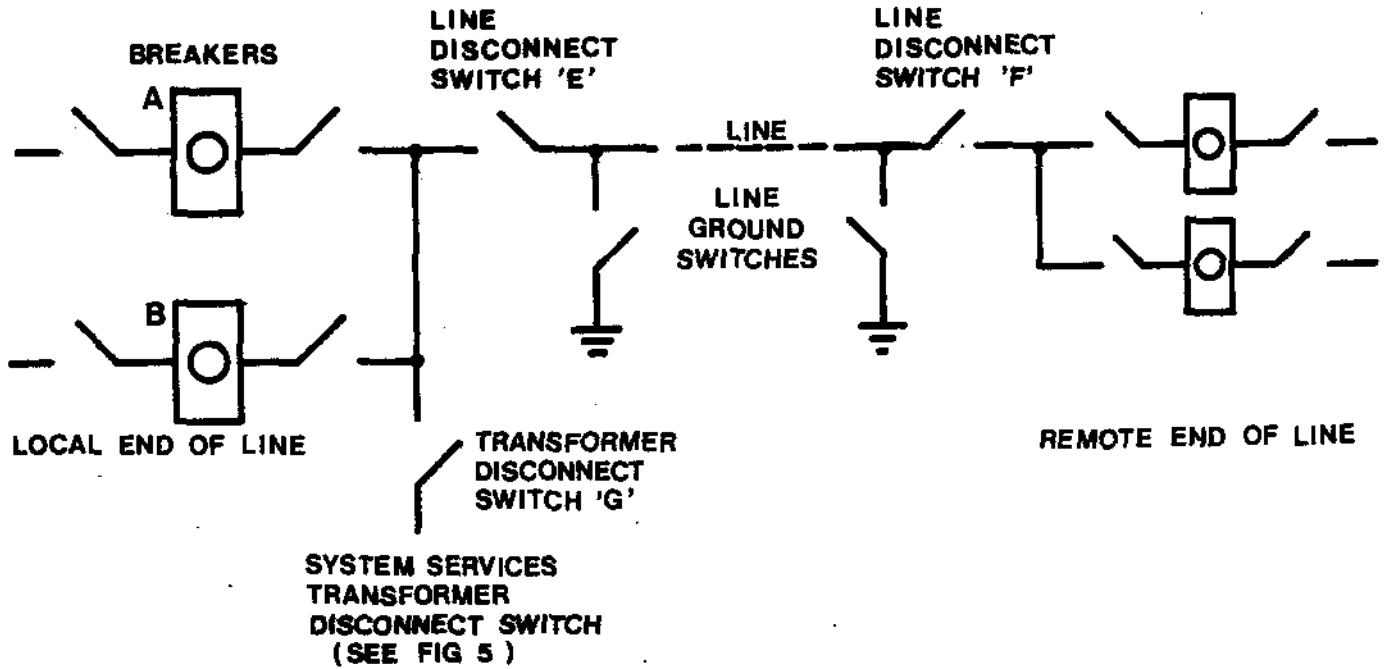

Figure 6: Line Disconnect Switches and Line Grounding Switches.
5.4.2 Line Disconnect Switches. Line disconnect switches provide isolation between a transmission line and the associated switchyards, see Figure 6.